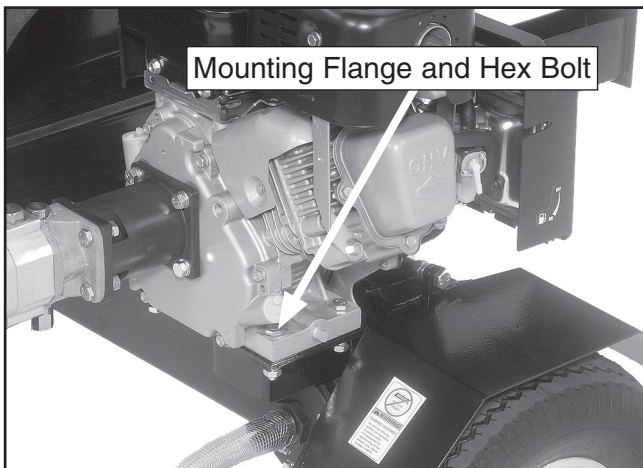

Figure 13. Installed engine.
16. Secure the engine with the four M8-1.25 x 45 hex bolts, flat washers, lock washers, and hex nuts as shown in **Figure 13**.
17. Tighten the fasteners in an alternating pattern evenly, so you do not risk cracking the mounting flange shown in **Figure 13**.